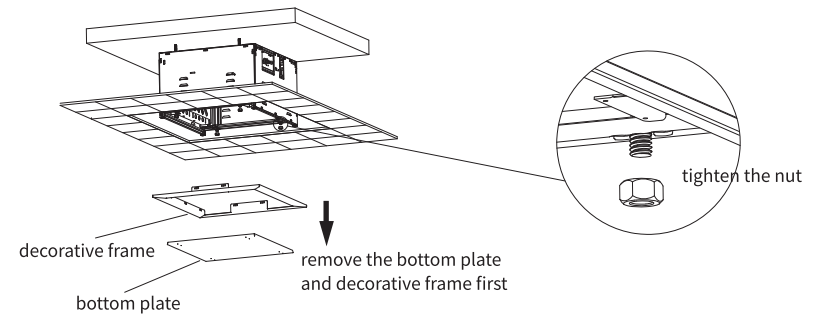

figure 5
3. First remove the bottom plate and decorative frame before installation, and then tighten the nut, as shown in Figure 5